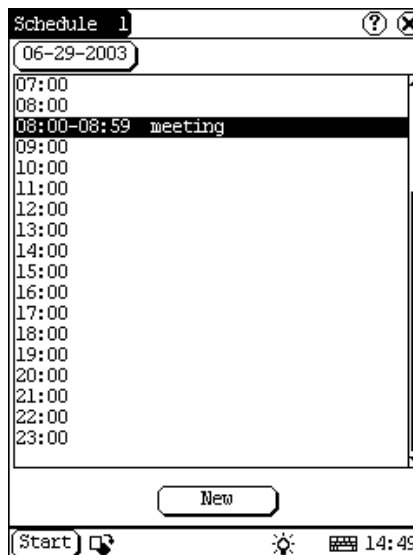

Figure 5-27
- 3) In the list box in the middle of the interface, all schedules on that day corresponding to the Date button will be displayed. (See Figure 5-27)